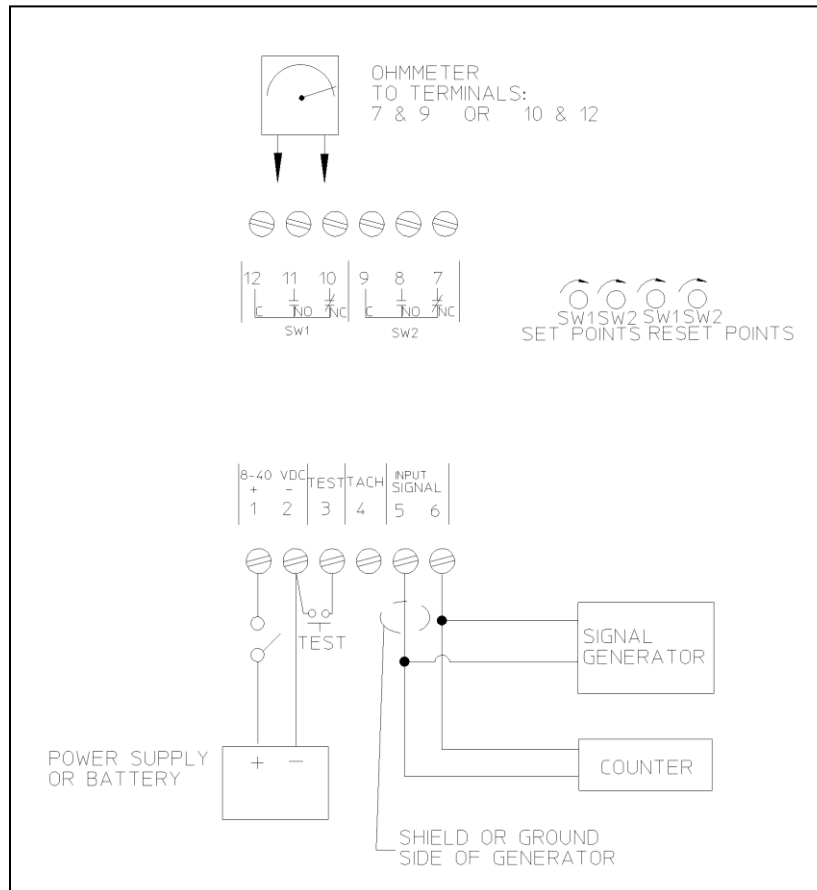

Figure 5. Setpoint Bench Adjustment
1. Connect signal generator, frequency counter and power to ESSE-2 as shown in **Figure 5**.